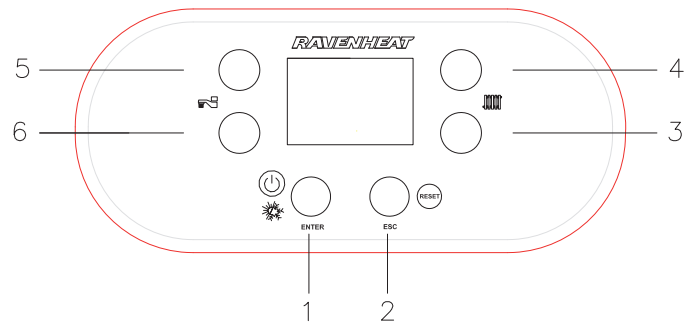

Fig. 1
**In the event of an error, the appliance will show a sequence code displayed on the digital display of the control panel (fig. 1). By pressing the "RESET" button it is possible to relight the boiler (see page 52 and 53 for list of error codes).**
The boiler is equipped with a large LCD display that indicates the appliance operating status (fig. 1).
Use the arrow up and the arrow down buttons C.H. setpoint, (item 3 and 4 fig. 1) to show the following info: